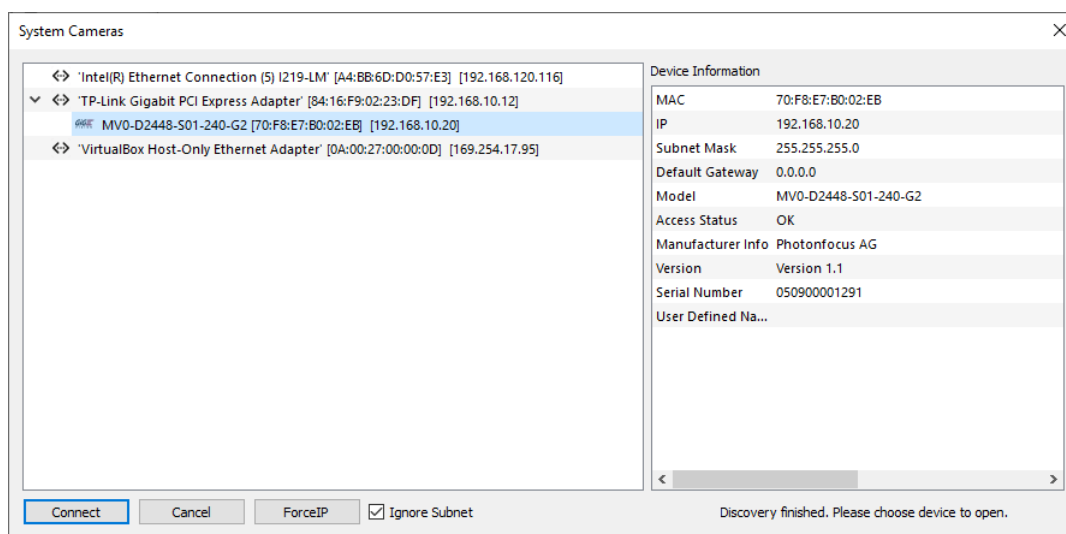

Figure 2.11: PFViewer Device Selection Procedure displaying properly configured IP address
- The IP address is properly configured, when its Access Status shows Ok in the Device Information (see Fig. 2.11).